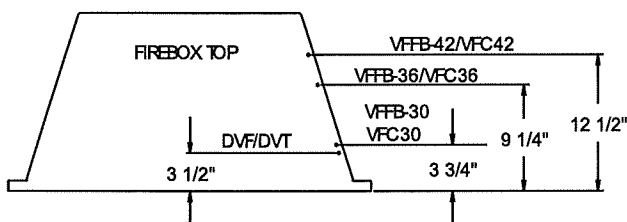

Figure 1
5. Centered in the rear are (2) weld studs which protrude upward into the bottom of fireplace for attachment of fan.
7. Align and place (2) clearance holes that are 2 1/2" from end of fan mounting bracket onto (2) weld studs.
8. Use (2) wing nuts to attach fan to weld studs.
9. Located in the right, front are (2) weld studs which protrude upward into the bottom of fireplace for attachment of speed control.
10. Insert speed control into interior, bottom of fireplace. Align and place (2) clearance holes on speed control onto (2) weld studs.
11. Use (2) wing nuts to attach speed control to weld studs.
13. Refer to Figure 1 for mounting hole location on right side of firebox top that applies to your appliance. Measure from front edge of firebox top to determine mounting hole location. Remove appropriate screw from firebox top.